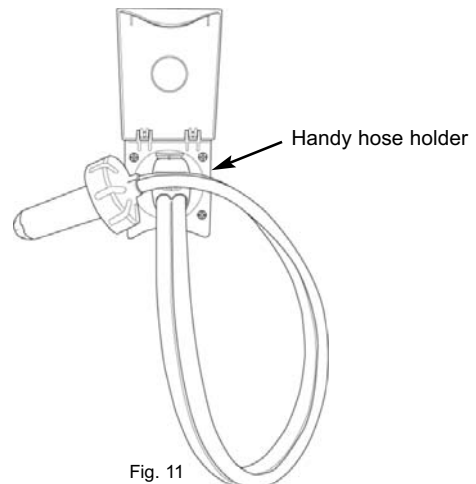

Fig. 11
- Fig. 11 When filling the water container - EP1642